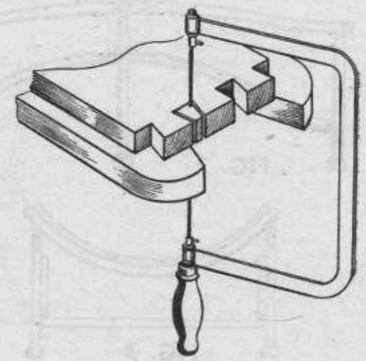

FIG. 3. USE OF COPING SAW FOR FINE DOVETAILES
When removing the smaller pieces of waste to receive the pins between the tails, the bow-saw blade may be too large and coarse. In such a case use a coping saw or a fretsaw as shown in Fig. 3, and finish the cut with a narrow bevel-edged chisel. This latter tool is almost essential, otherwise the corners cannot be cleanly cut. Use of a coping saw is also better for the whole joint where the work is in thin wood and joints are of the delicate character found in some cabinet work. (900)